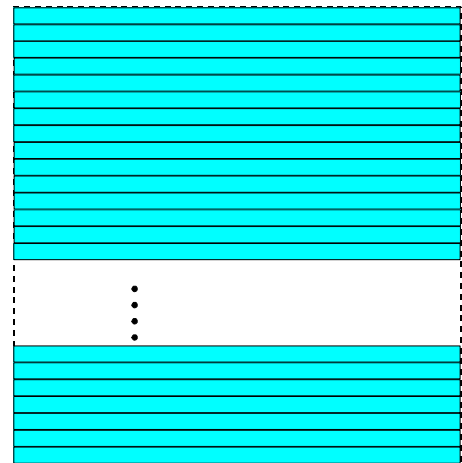

Fig. 96: Decimation Disabled
- 1: the complete frame will be transmitted out of the camera (no sub-sampling is realized); see Figure 96.